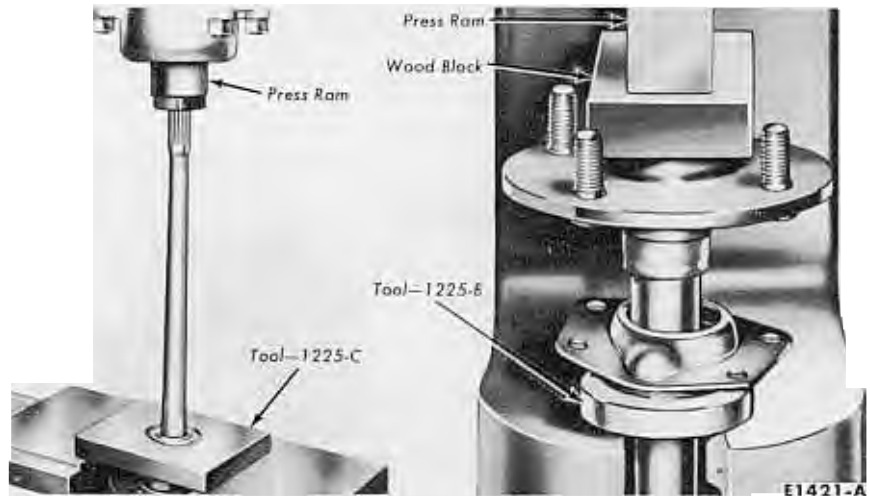

FIG. 7—Removing and Installing Rear Wheel Bearing—Comet
5. Remove the bearing from the axle shaft with the tool shown in Fig. 7 or 8. If the push-puller operation shown in Fig. 8 is used, be sure that the puller arms contact the flat surface of the axle shaft flange rather than the bolt heads. Also with this method, be careful not to damage or burr the oil seal journal as the bearing breaks loose.
9. Place the retainer plate on the axle shaft, and press the new wheel bearing on the shaft with the tool shown in Fig. 7 or 8. The bearing should seat firmly against the shaft shoulder. Do not attempt to press on both the bearing and the inner retainer ring at the same time.